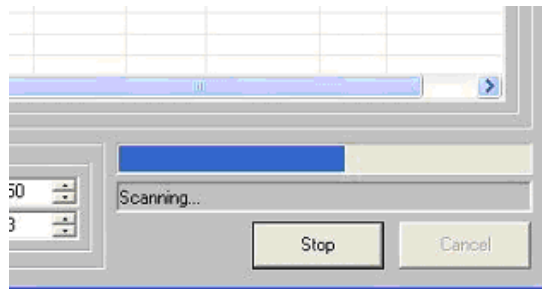

Figure 40: Scanning process
2. The message “*Scanning...*” appears below the progress bar (See Figure 40).